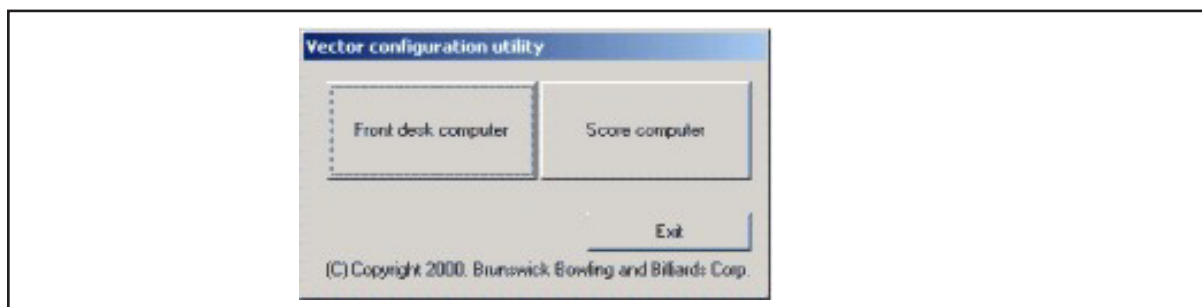

Figure 18. Config.exe screen
2. Select the Score Computer button. *Refer to Figure 18.*